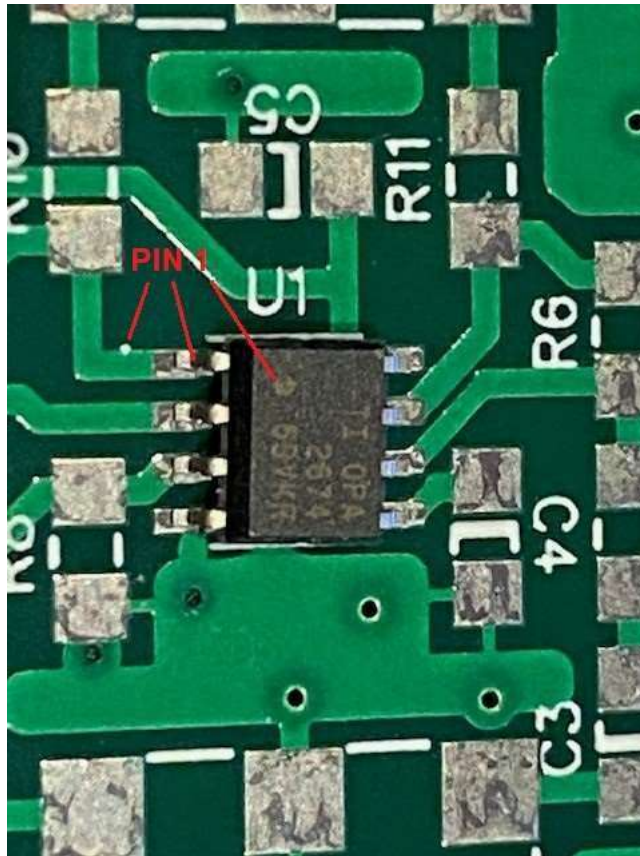

Figure 4. Location of PIN-1 For OPA2674 Part Placement On The PCB
- Place semiconductors except for the RD16HHF1s (Q2, Q3) onto the board first. Note the U1 symbol on the PCB is at the top of the part (pin 1 left, pin 8 right, See Figure 4).